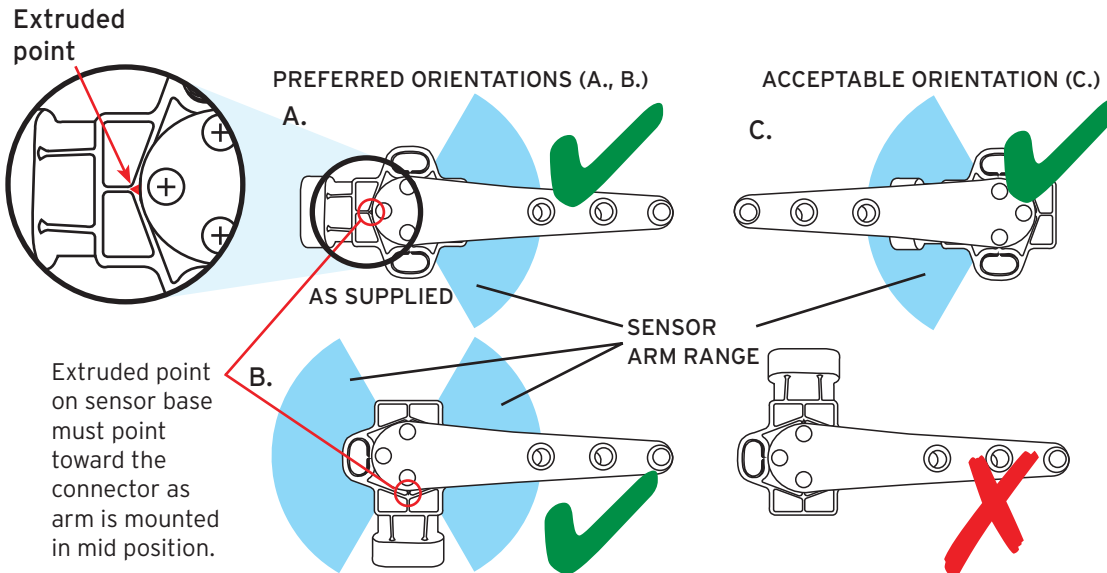

Fig. 2
- The sensor connection point must be angled downward between horizontal and vertical (i.e., facing the ground) (Fig. 2). Failure to do so could allow water into the sensor electrical connection, which may damage your system.